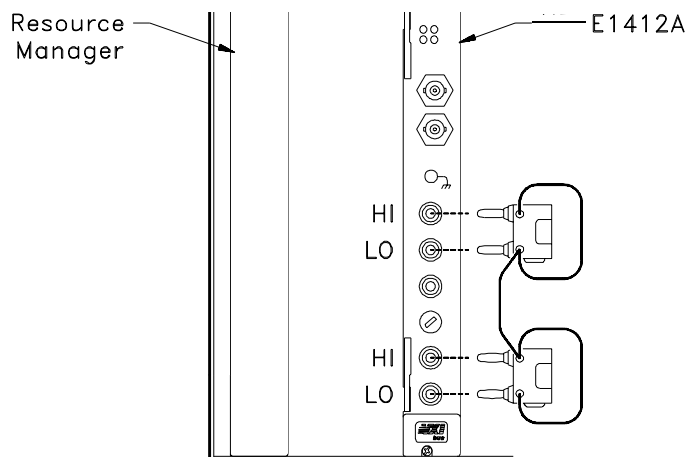

Figure 4-1. Zero Offset Verification Test Setup.
3. Apply a 4-wire short (copper) across the Input HI-LO and Sense HI-LO terminals as shown in Figure 4-1. Wait five minutes for thermal offset voltage settling.